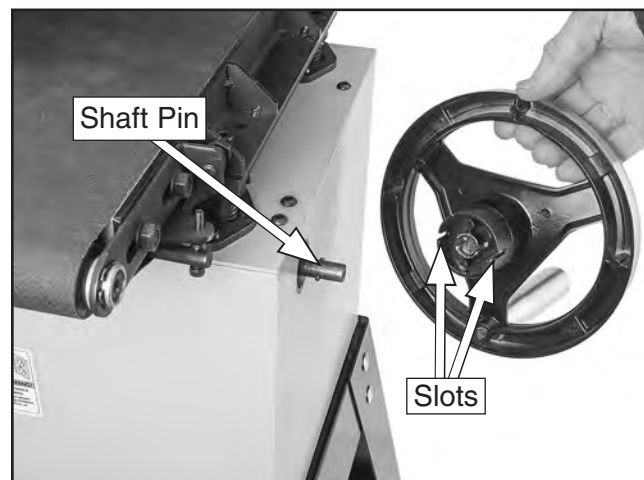

Figure 12. Installing table elevation handwheel.
17. Slide table elevation handwheel over shaft pin (see **Figure 12**) and secure with (1) 5mm flat washer and (1) M6-1 x 35 cap screw.